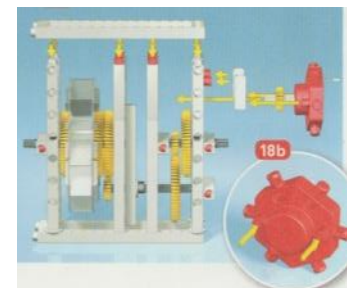

Figure 8: Motor Assembly
**Use Figure 8 for steps 25-29.**